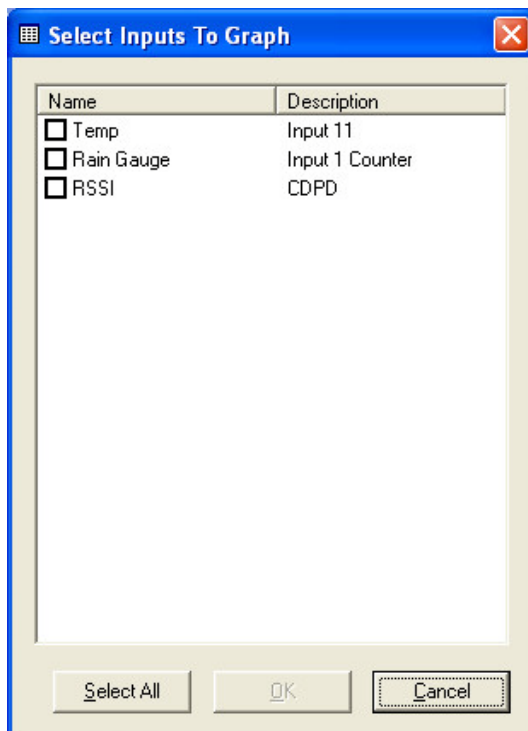

Figure 9. Selecting the inputs to graph
4. Click *Make Graph*. This will bring up the input selection box, shown in Figure 9 below. After the sites and date range has been selected, the inputs to be graphed must be chosen. The inputs can be selected separately (1,3,8), sequentially (1-4) or all at once (ALL). If you wish to export calculated flow, enter input number 32.